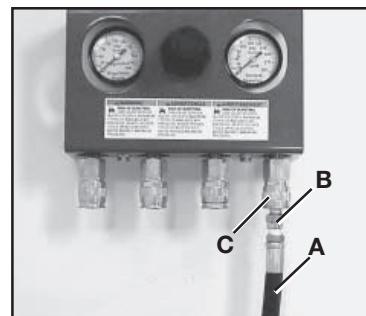

Fig. 4
1. Attach 3/8” hoses (A) with 1/4” industrial quick-connect fittings (B) to the outlets (C). One to four tools can be used at the same time. See Figure 4.
- Attach 3/8" hoses (A) with 1/4" industrial quick-connect plugs (B) to the outlets (C). One to four tools can be used at the same time. See figure 4.